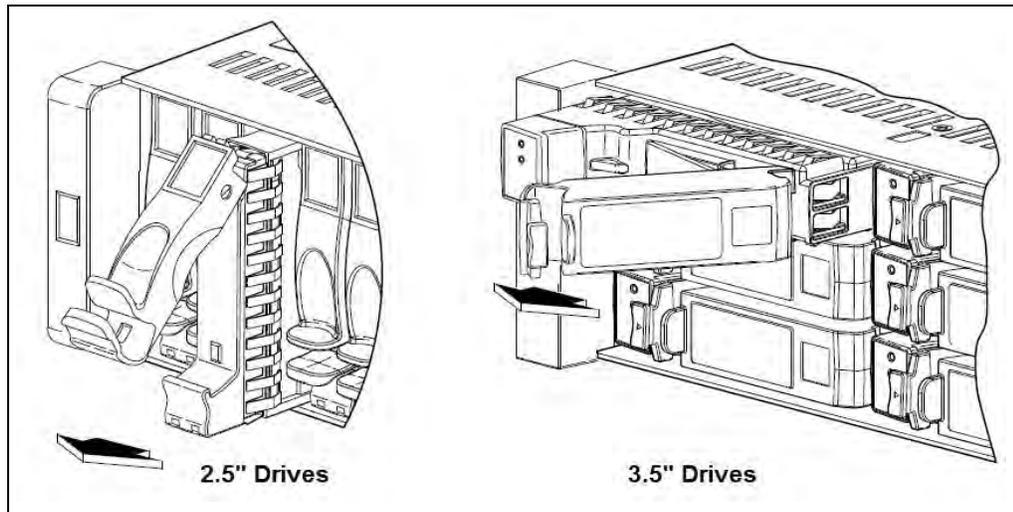

Figure 5.51 - Removing an AMS
3. Pull the drive module straight out of the chassis (see Figure 5.51). Return the failed disk and carrier to Tektronix Communications.